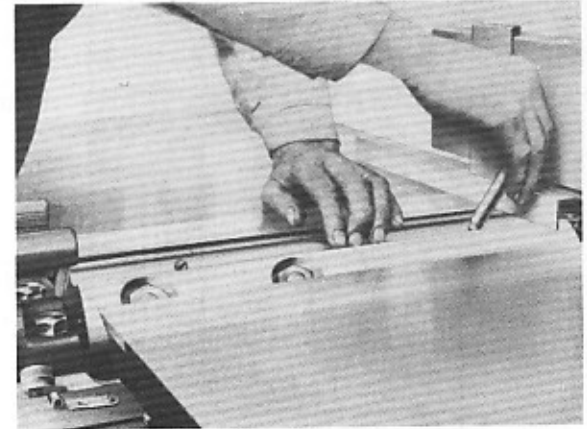

FIG. 12
4. Place a long straight edge on the back table allowing it to project over the cutterblock as Fig. 12 and with the table $1/16''$ (1.5mm) above the body of the block. Adjust the knife with special key inserted in the head of the screw as Fig. 12 until the knife lightly makes contact with the straight edge. This is done by a partial turn of the block during the adjusting process. It is advisable to move the straight edge to two or three positions along the block to ensure the knife is set parallel. Proceed with the remainder of the knives in a similar manner.